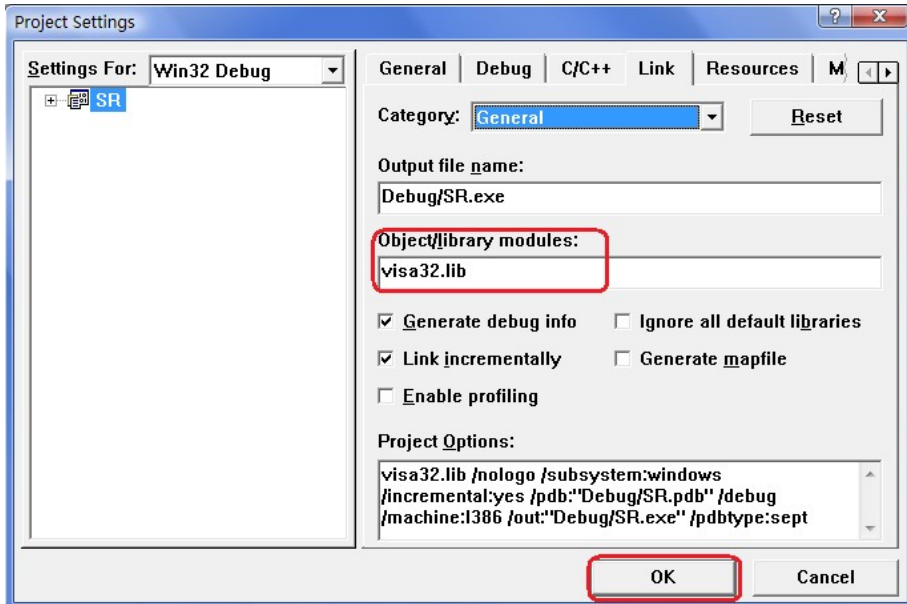

Figure 4-1-2
1. Choose Project → Settings → Link, add the file visa32.lib manually in Object/library modules; click OK; as is shown in figure 4-1-2.